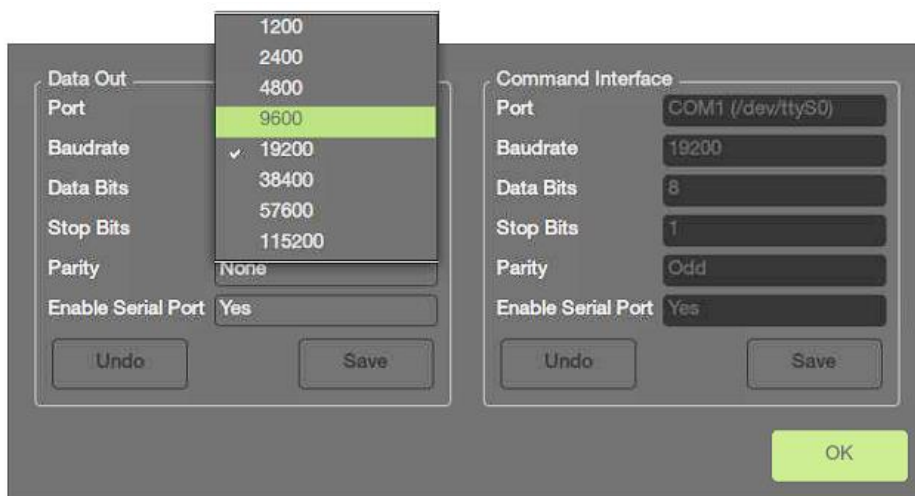

Figure 34: Baudrate Options
2. Select the baudrate from the menu options. Figure 34.